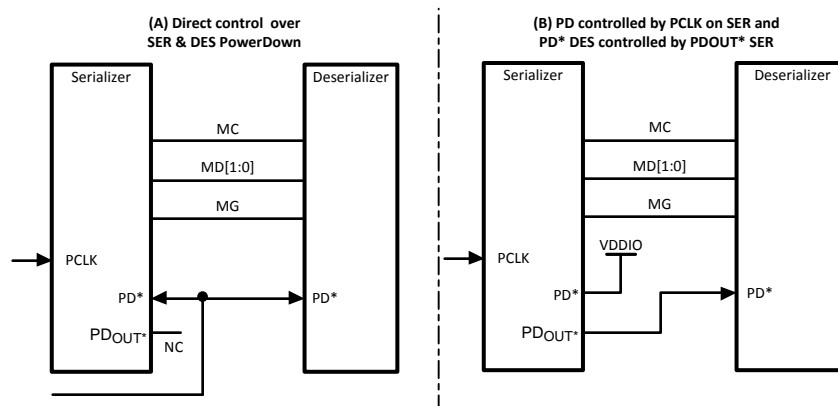

Figure 13. Power Down Control Options
Multiple configurations for PowerDown are possible with the chipset. These depend on the operating mode and configuration chosen. Two possible applications are shown in Figure 13. RGB Modes are shown in (A) and (B). "A" provides PD* input pins on both devices, this may be common or separate. In (B), the SER is controlled by the PCLK STOP feature and a PDOUT* pin is provided to control the DES. When using the SER PD_{OUT}* mode, the V_{DDIO} rails of the devices should be the same to meet the PD* input thresholds of the DES.